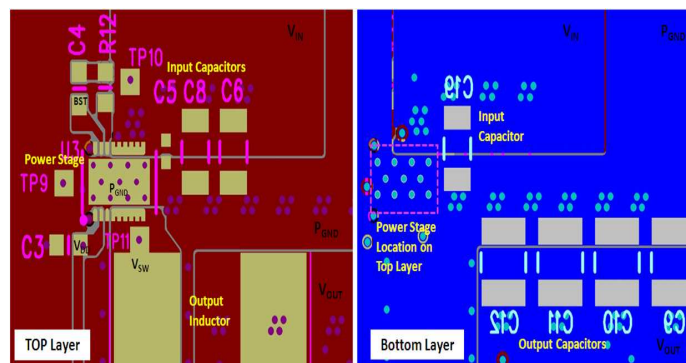

Figure 16. Recommended PCB Layout (Top Down View)
- The placement of the input capacitors relative to  $V_{IN}$  and  $P_{GND}$  pins of CSD97395Q4M device should have the highest priority during the component placement routine. It is critical to minimize these node lengths. As such, ceramic input capacitors need to be placed as close as possible to the  $V_{IN}$  and  $P_{GND}$  pins (see Figure 16). The example in Figure 16 uses 1 x 1 nF 0402 25 V and 3 x 10  $\mu$ F 1206 25 V ceramic capacitors (TDK Part # C3216X5R1C106KT or equivalent). Notice there are ceramic capacitors on both sides of the board with an appropriate amount of vias interconnecting both layers. In terms of priority of placement next to the Power Stage C5, C8 and C6, C19 should follow in order.
- Use the smallest drill size allowed in your design. The example in Figure 16 uses vias with a 10 mil drill hole and a 16 mil capture pad.